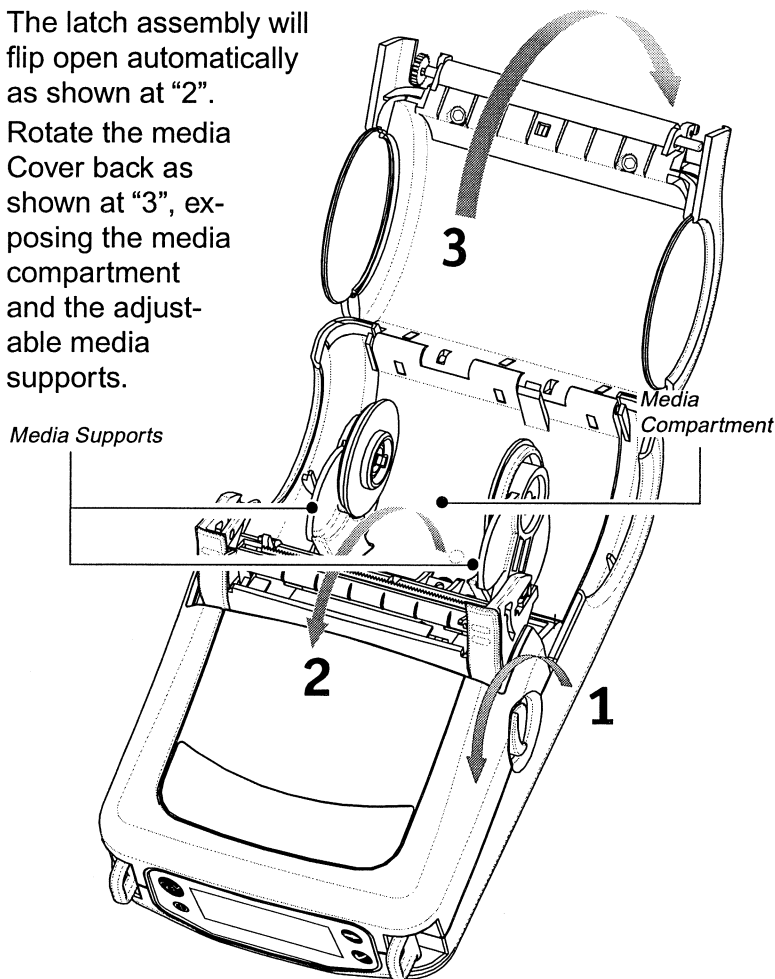

FIGURE 4
1. Refer to Figure 4. Open the printer: